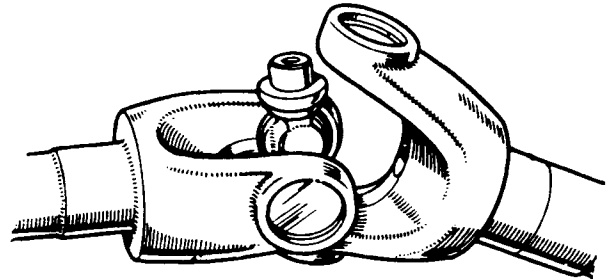

Fig J1.41
- (7) Refer to Fig J1.41. Part the stub shaft from the spider journals.
- (8) Repeat steps (2) to (7) for the half shaft bearings.